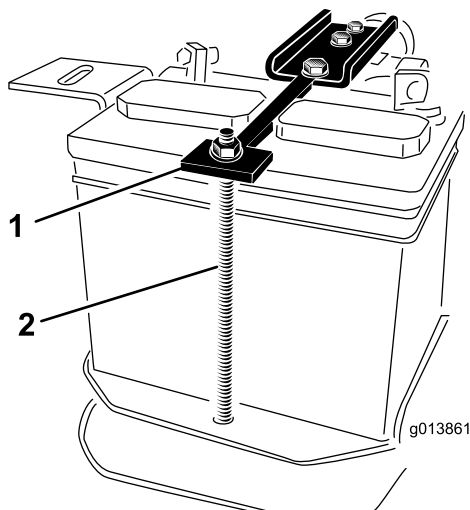

Figure 4
17. Remove the two nuts holding the battery hold down straps in place and set the nuts, washers and bolt tube off to the side (Figure 4).